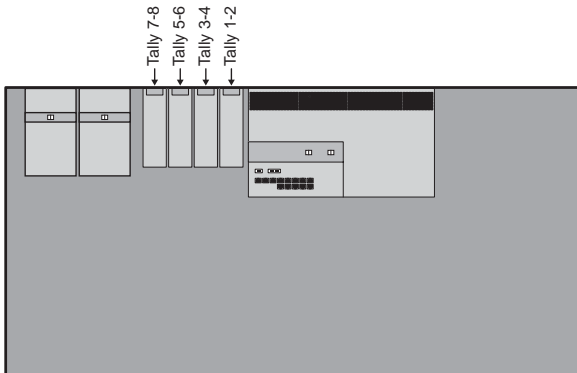

Figure 1 Vision 4 Control Panel Tub — Tallies
4. Locate the slot where you want to install the additional Tally Board into (**Figure 1**).